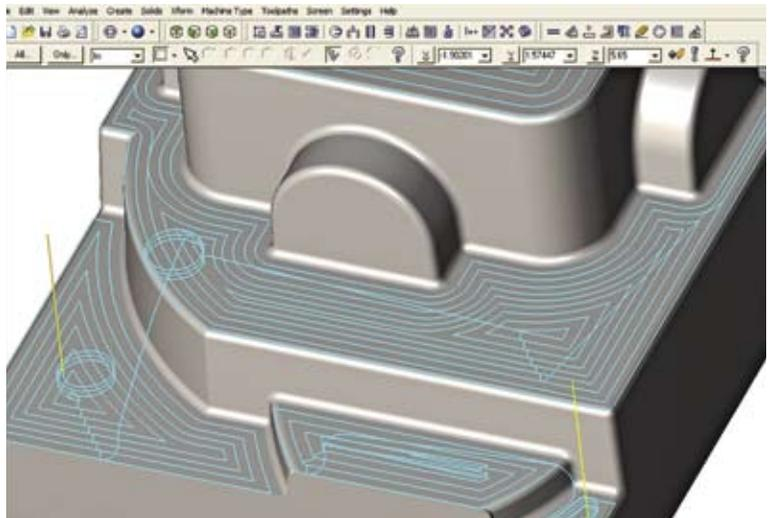

Figure 3: Horizontal milling uses a flat-nose or bull-nose tool to clean flat areas.
- *Horizontal area machining.* Uses a flat-nose or bull-nose tool to clean flat areas (Figure 3).